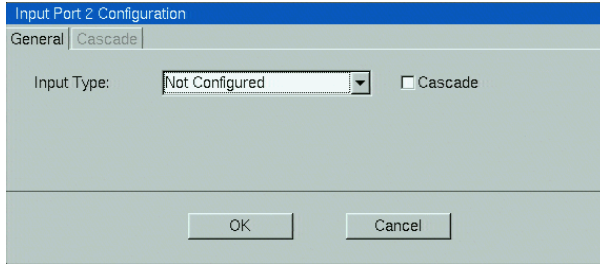

Figure 28 Configuration box
1. On the picture of the switch in the DX System Configuration window, click an input port . The Configuration box appears see Figure 28.